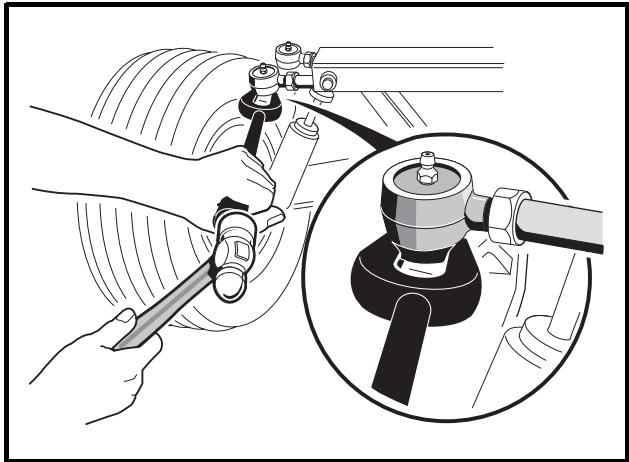

Figure 7-8 Ball Joint Tool
3. Using a ball joint removal tool, remove the ball joint (23) (**Figure 7-12, Page 7-10**) from the spindle assembly. **See Figure 7-8, Page 7-8.**
1. Remove ball joint from the spindle and inspect it for excessive wear (**Figure 7-8, Page 7-8**).